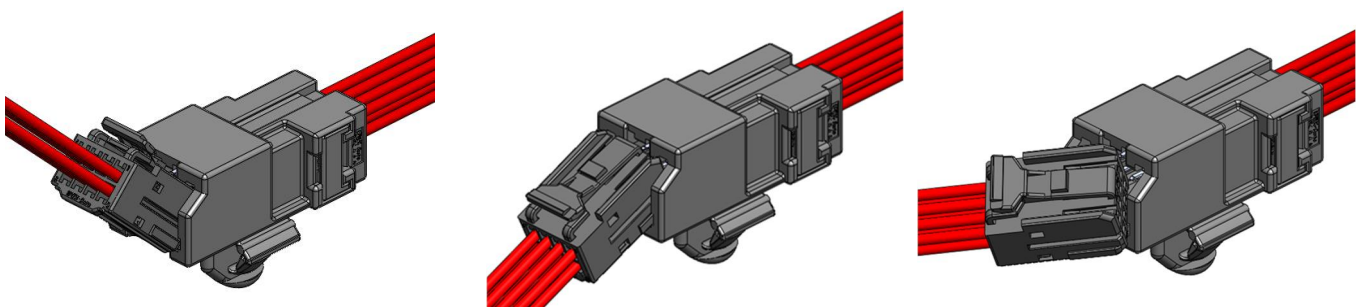

Fig. 44 Examples of incorrect mating orientation (not advisable)
- ① Only mate the connector in the direction instructed above. Do not forcefully mate in any orientation shown in Fig.44. Doing so may cause damage or deformation to connectors.
- ② If there is any damage or deformation, do not use the damaged item. Replace the item with a new one.